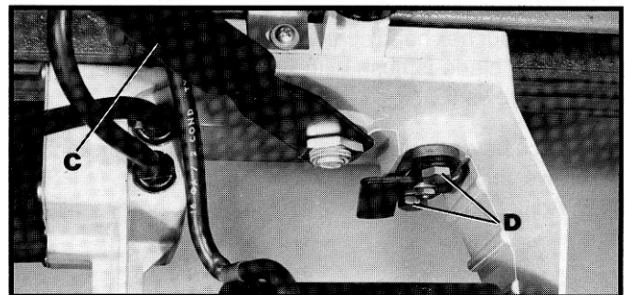

Fig. 53
5. If the blade is not parallel to the square, an adjustment is necessary. Release the yoke clamp handle (C) Fig. 53, and loosen two hex head screws (D). Swivel the yoke until the blade is parallel with the square and tighten yoke clamp handle (C).
6. Tighten two hex screws (D) Fig. 53.